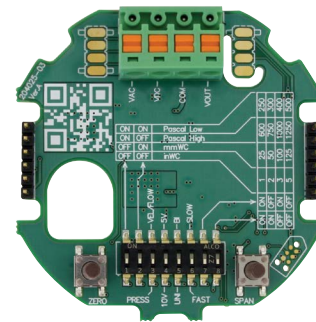

Figure 5: 5 in w.c. pressure board
DIP switch settings are marked directly on the PCBA as shown in Figure 5. Switches are factory-set, based on the order configuration. You can also use a small screwdriver or pen to change the position of the switches.
**NOTICE** Figure 5 is a depiction of a 5 in w.c. pressure board. Other pressure boards, while similar, will vary from the below.